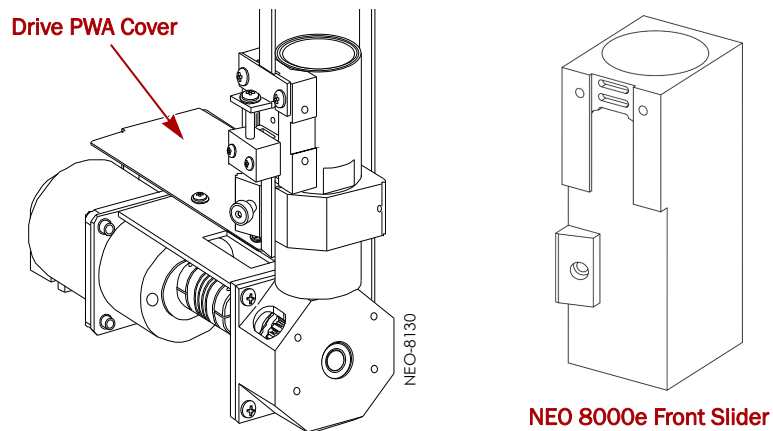

Figure 2-1: Front BDA Drive PWA Location
- a. At the front, remove and retain the **two screws** securing the Drive PWA cover (Figure 2-1).